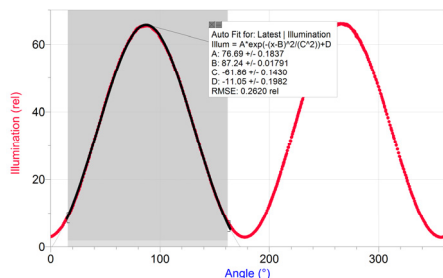

Figure 3 Selection for fits
- **Statistics:** To simply get the angle with the highest illumination, highlight the peak of interest in *Logger Pro* or LabQuest App, as shown in Figure 3. Choose Statistics from the Analyze menu. Record the angle value where the illumination is at a maximum, as presented in the box. This method is the fastest and will result in reproducibility of the angle of rotation measurement of $\pm 2.0^\circ$.
- **Gaussian:** To improve your accuracy with a better fit, highlight the peak of interest using *Logger Pro* or LabQuest App as shown in Figure 3. Then, choose Curve Fit from the Analyze menu. From the list of available Equations, select Gaussian. Select Try Fit in *Logger Pro*; in LabQuest App, the fit will run automatically. The B coefficient presented represents the angle at maximum illumination. This method will result in reproducibility of the angle of rotation measurement of $\pm 0.3^\circ$. The data are not a true Gaussian, but the ease and